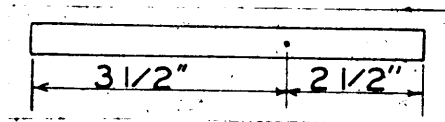

Figure 4.
1. Cut off a piece of stock 6" long and mark  $2\text{-}1/2"$  from the end with the center punch for the upsetting. (Figure 4).